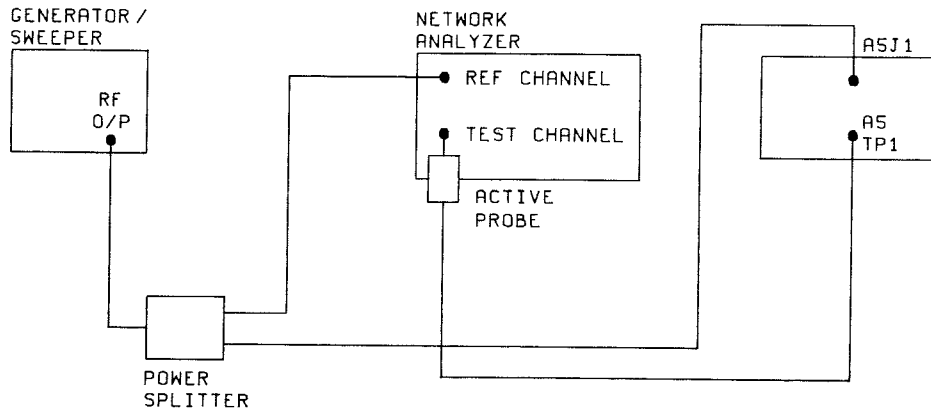

Figure 5-3 A5 Input Filter Adjustment Test Set-up
2. Connect the test equipment as shown in Figure 5-3.